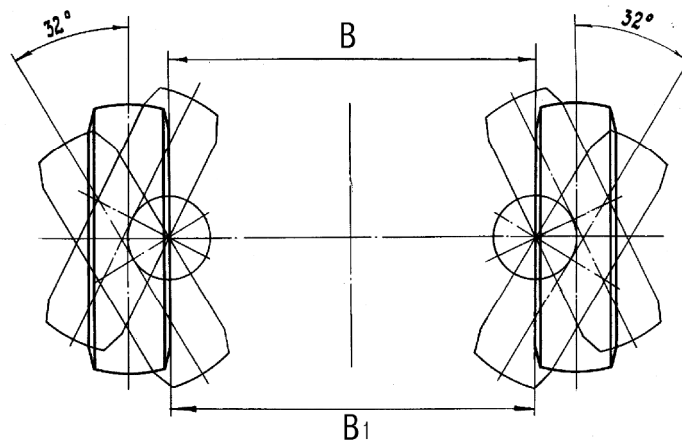

Fig.65. Positions of Steerable Wheels
Adjustment of the front wheel toe-in. For checking the toe-in of the front wheels, see that the tires have been inflated to the rated pressure and measure difference in distance B_1 and B (Fig. 65) across the wheel rims.
- using a measuring rule, check distance B_1 between the wheel rim beads in the rear section at the level of wheel centers and mark these points. Roll the truck, so that these marks are in front and check distance B . In front the distance must be 1 - 3 mm less than that in the rear. If the difference of the distances measured between B_1 and B is beyond the limits, readjust by changing the length of the lateral steering rod after slackening the bolts on the steering rod ends. Upon readjusting the toe-in, tighten the rod end bolts. Angles of turn are limited by constant non-adjustable thrusts. The amount of these angles is given in Fig. 65.